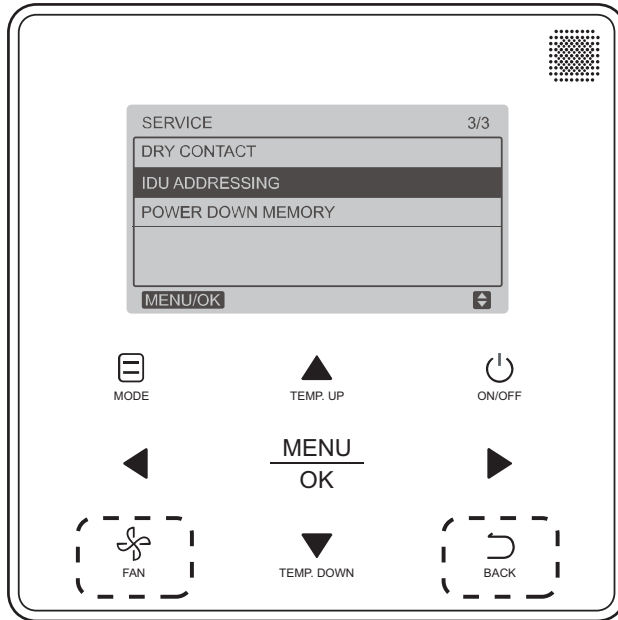

Fig. 32 — Programmable Controller (40VM90003) IDU Addressing Menu
1. Press **FAN** and **BACK** simultaneously for 5 seconds to access parameter settings as shown in Fig. 32.